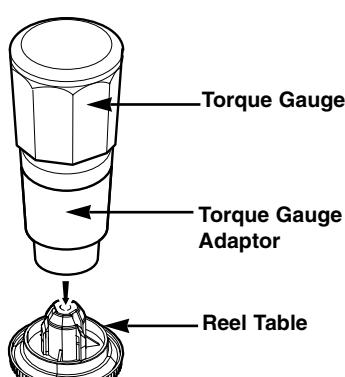
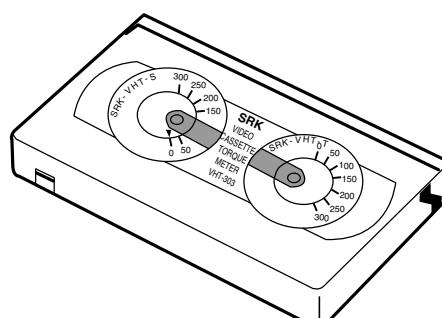

Fig. C-3-1
Fig. C-3-2
• Torque Gauge(600g/cm ATG) • Torque Gauge Adaptor • Cassette Torque Meter SRK-VHT-303	• Play (FF) or Review (REW) Mode
• Perform each Deck Mechanism mode without inserting a cassette tape(Refer to above No.2 Preparation for Adjustment). • Read the measurement of the Take-up or Supply Reels on the Cassette Torque Meter(Fig. C-3-2). • Attach the Torque Gauge Adaptor to the Torque Gauge and then read the value of it(Fig. C-3-1).